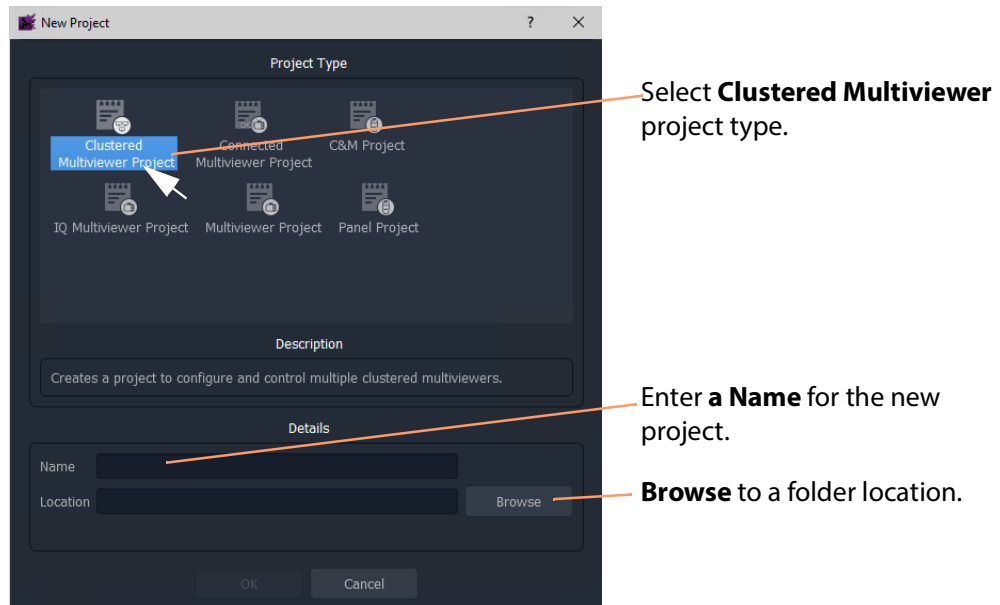

Fig. 14-3: New Project Dialog
- 3 Select the **Clustered Multiviewer** project type. (See Figure 14-3.)